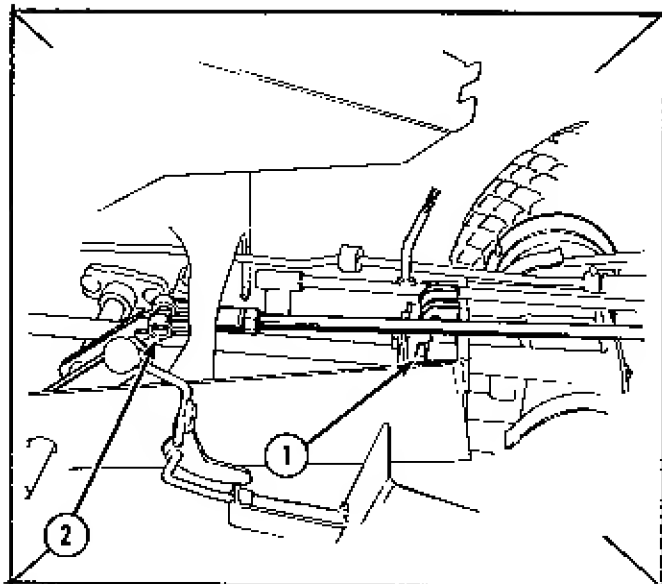

FIGURE 4
- E. Remove top two screws holding bevel gear housing to rear frame plate, install rear cylinder bracket, and secure with 3/8-16 cap screws provided. (1, Fig. 4)
- F. Remove pivot pin from front clevis on the left rod assembly (2, Fig. 4)